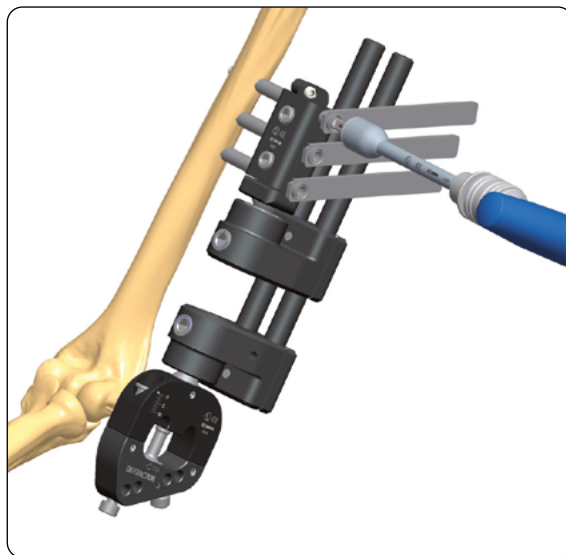

Fig. 5
4) Once the second cortex has been reached, reduce the drilling speed and continue through the bone. Ensure that the drill bit completely penetrates the second cortex. Remove the Drill Bit and Drill Guide, keeping pressure on the handle of the Screw Guide. Insert a 110/30 cortical screw (10110) or if necessary a longer screw through the Screw Guide into the bone using the Universal T Wrench (93150+93155) (**Fig. 5**).